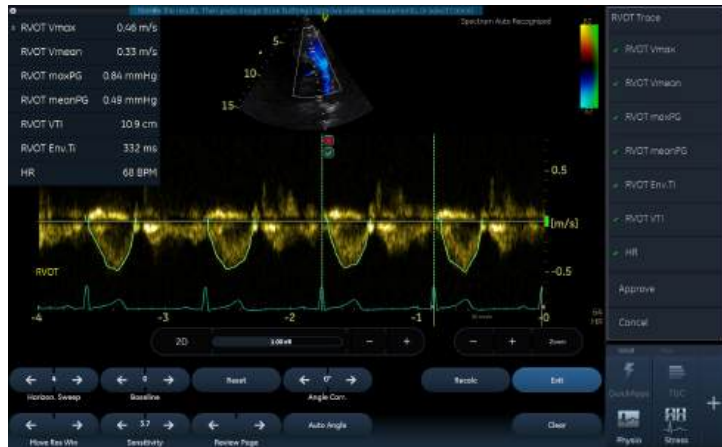

Figure 8-38. Reject or keep cycles
4. When hovering over a cycle, the cycle can be rejected or exclusively kept by selecting the corresponding symbol, see Figure 8-38. Press the **Recalc** button to restore rejected cycles.